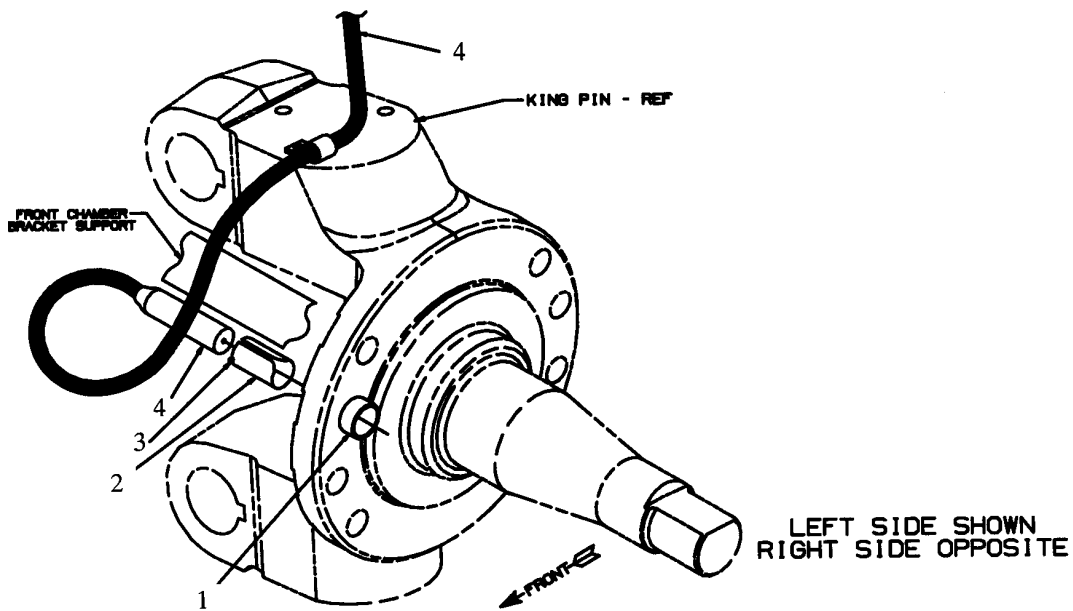
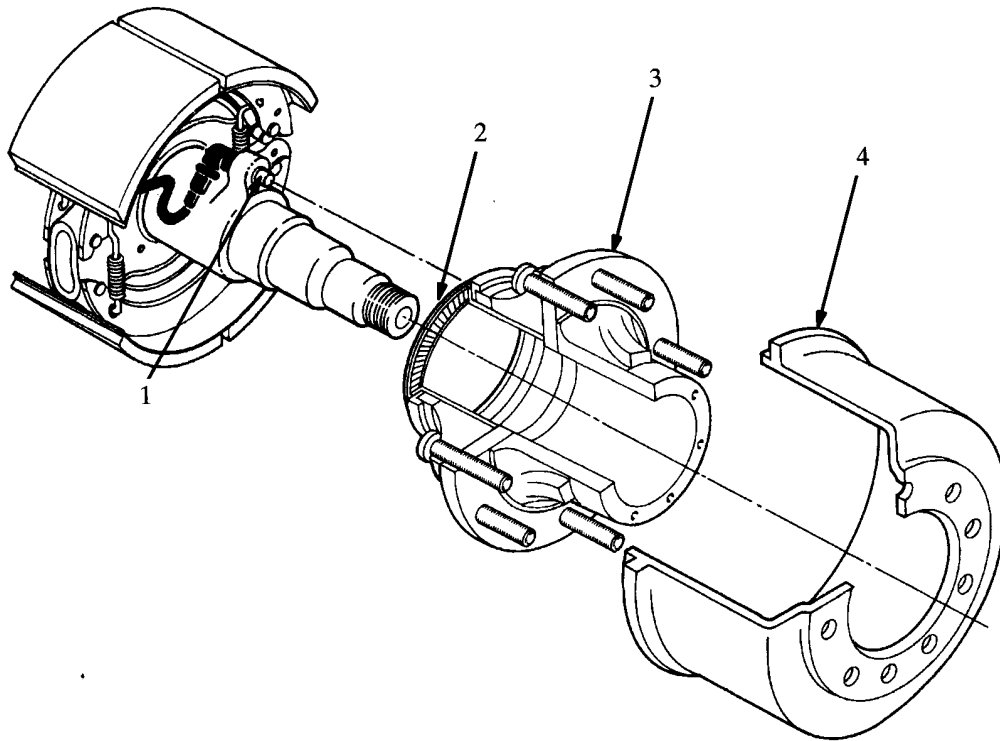

Figure 2 Typical Front Axle, Wheel Sensor Installation
Figure 3 Exciter Ring Installed on Rear Wheel Assembly
The wheel speed sensors are mounted on the axle ends (Figure 2 and Figure 3). The wheel sensors house a permanent magnet, which creates a magnetic field. When the field created by the sensor magnet is interrupted by the teeth of the exciter ring moving through it, an A.C. voltage is produced. The frequency of the voltage increases or decreases as the wheel speed increases or decreases. The sensor has a pigtail with a two-pin connector that connects to the ABS harness mating connector. The sensor signal goes from the sensor through the ABS harness and connects to the ECU, either with a 12-pin connector or a 14-pin connector, depending on the location of the wheel sensor. The left and right front wheel sensors connect to the 14-pin connector and the rear chassis sensors (2) connect to the 12-pin connector.
The exciter ring is machined to close tolerances and has 100 equally spaced teeth (Figure 3). The ring is heated and then installed onto the wheel assembly. Then as the exciter ring cools, it shrinks on the mating surface of the wheel hub. As the wheel rotates, the 100 teeth pass the sensor, each breaking the magnetic field creating the AC signal. One hundred cycles or pulses of the signal would indicate one revolution of the wheel. The signal is transmitted from the sensor to the ECU.